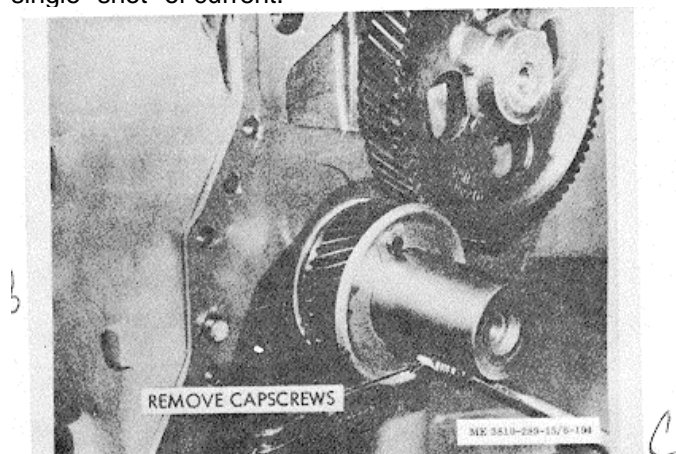
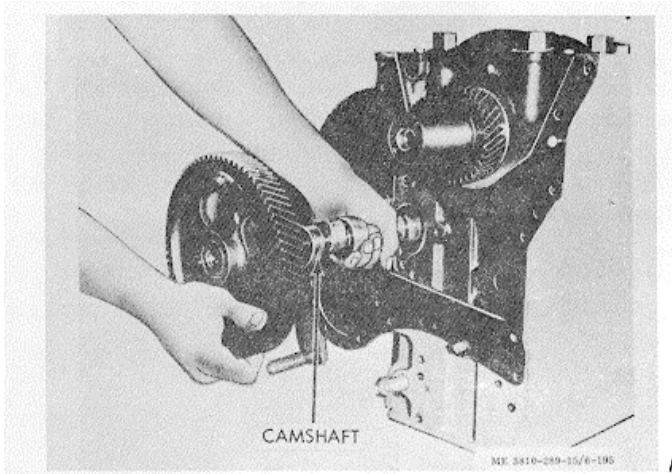

Figure 3-186. Oil slinger capscrews removal.
Figure 3-187. Camshaft removal.
(1) Since the crankshaft oil slinger partially covers the camshaft gear, remove slinger mounting capscrews and lockplates, (fig. 3-186 and remove slinger from crankshaft; discard lockplates.
(2) Remove capscrews and lockwashers (accessible through openings in camshaft gear) securing camshaft retainer bearing to block.
(3) Rotate camshaft gear slightly to disengage gear teeth while carefully pulling camshaft, camshaft gear and bearing plate from block. Refer to figure 3-187.